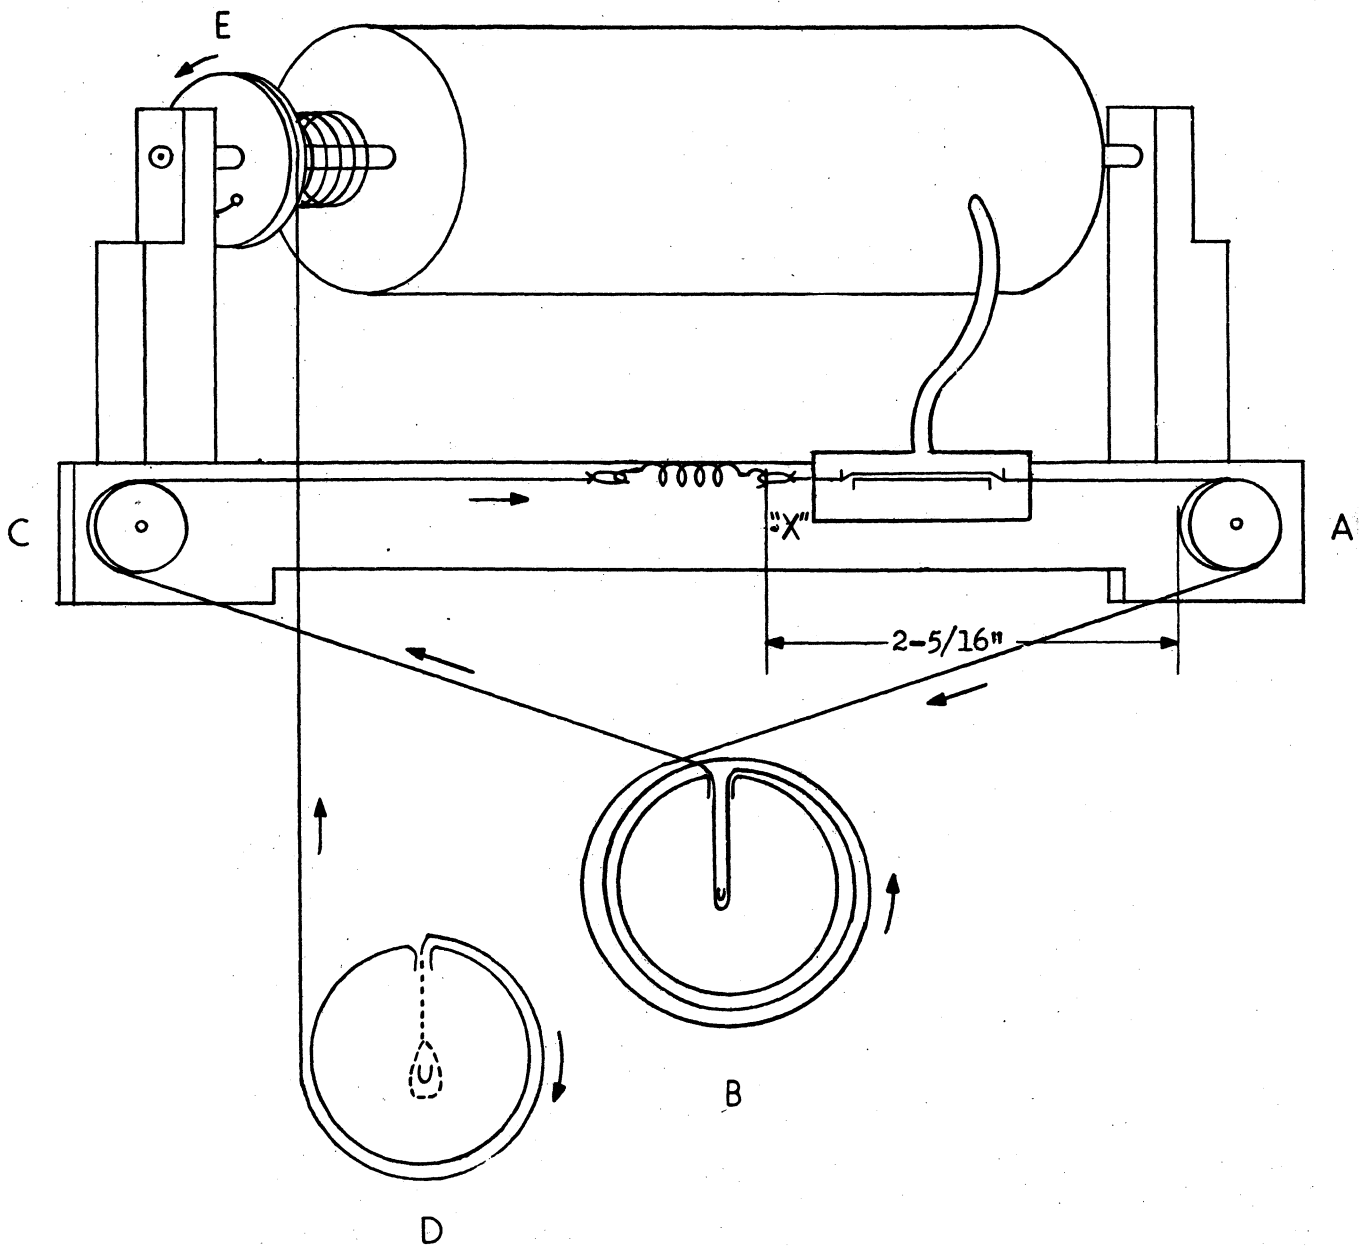

Figure 5-2 Dial Cord Drawing
5.4.1. GENERAL - The front panel must be removed to replace either the dial pointer cord or the drum rotator cord. Figure 5-2 shows both cords in place and the direction in which the restringing should proceed.